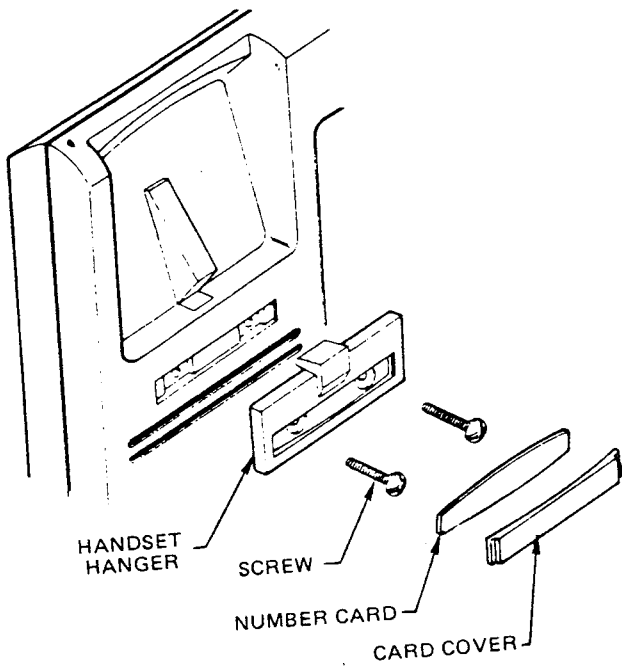

FIGURE 36—HANDSET HANGER KIT
09.21 Refer to Figure 36, the optional handset hanger kit (P/N HWMA, available from your Toshiba supplier) must be used whenever the EKT is wall-mounted.